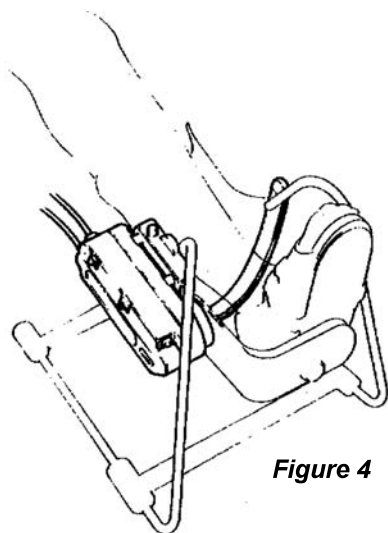

Figure 4
- Position the Actuator at the top (left or right) of the Actuator Ring, (see Figure 4) lining up the graphics on the Actuator Ring and the Actuator Position Button Block. Release the Locking Button.